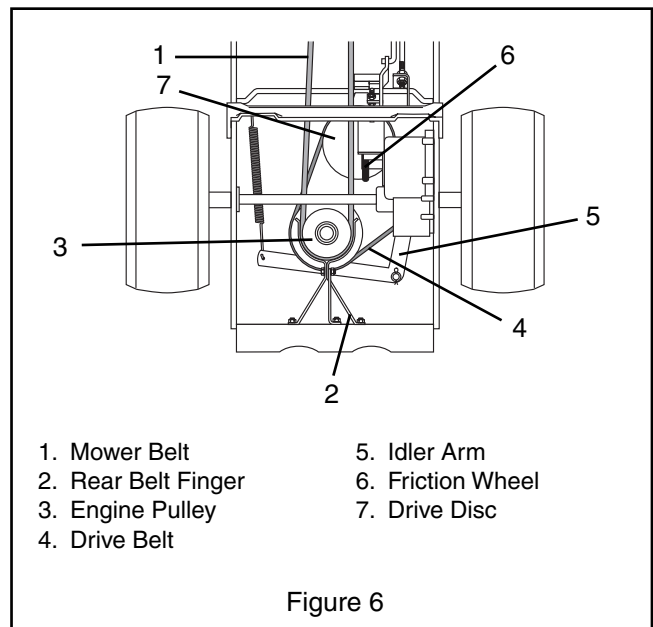

Figure 6
5. Position rear belt finger with 1/16" clearance between belt and finger, secure rear belt finger to rear cover by tightening top two nuts first, then bottom nut (see Figure 6).